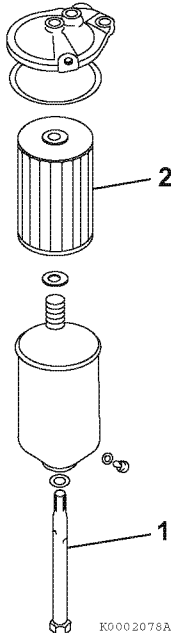

Figure 1
2. Remove the center bolt (1, **Figure 1**) at the bottom of the filter and take out the filter element (2, **Figure 1**).
3. Replace the element with a new one and tighten the center bolt (1, **Figure 1**).